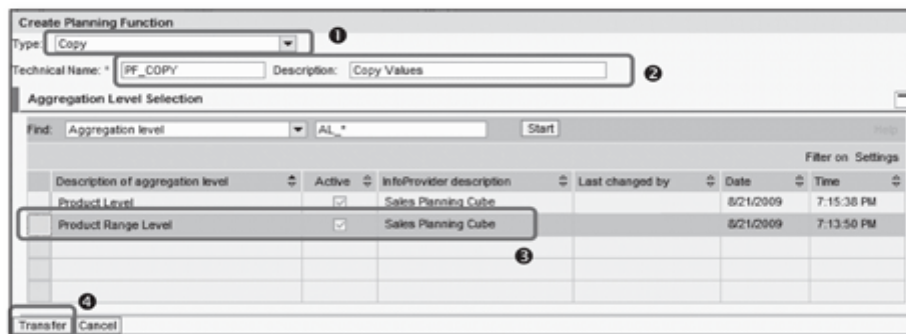

Figure 12.45 Create Planning Function
In the pop-up screen, select one of the available planning function types from the dropdown list (❶ of Figure 12.45). (We'll discuss each of these standard planning function types in subsequent sections.)
Enter the technical name and description for the planning function (2 of Figure 12.45). Select an aggregation level over which the planning function has to be created (3). After you define all of these settings, click on TRANSFER to create the planning function (4).